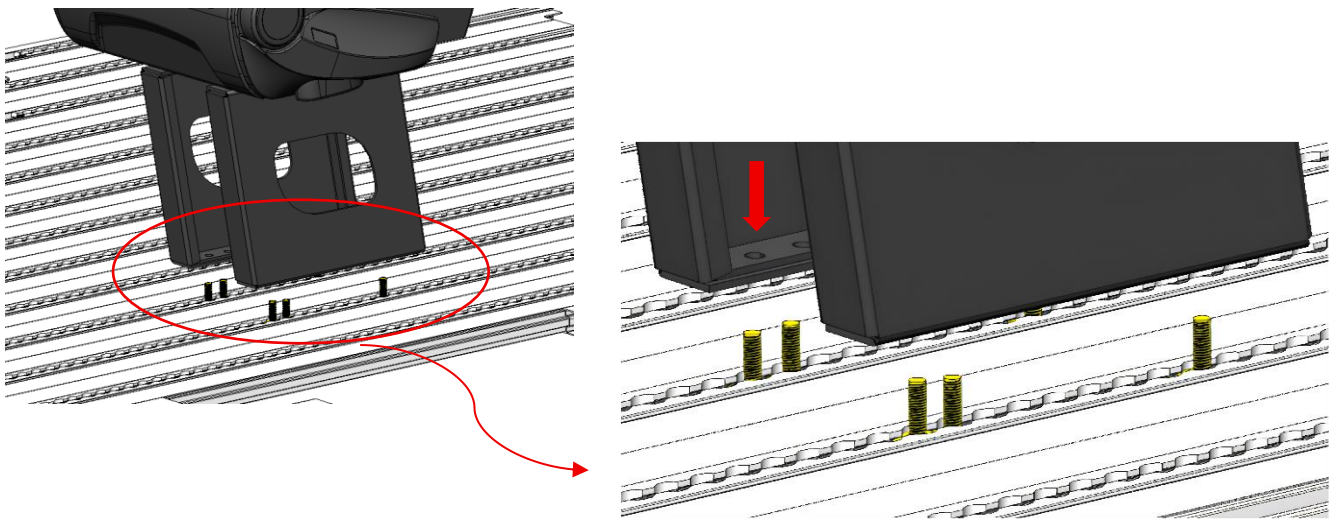

Figure 5
Step 5 Align the seat legs with the M10 T-bolts and secure them to the floor using M10 flat washers and M10 Nyloc nuts, as shown in **Figure 5**.